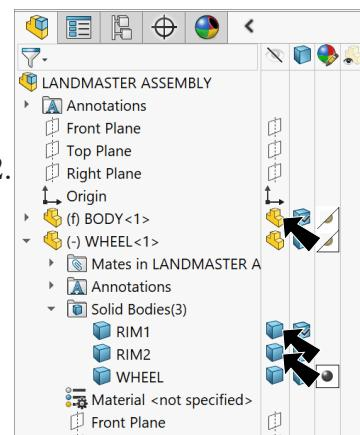

Fig. 11
Step 4. Show BODY  part and both RIM  body(s), Fig. 11.